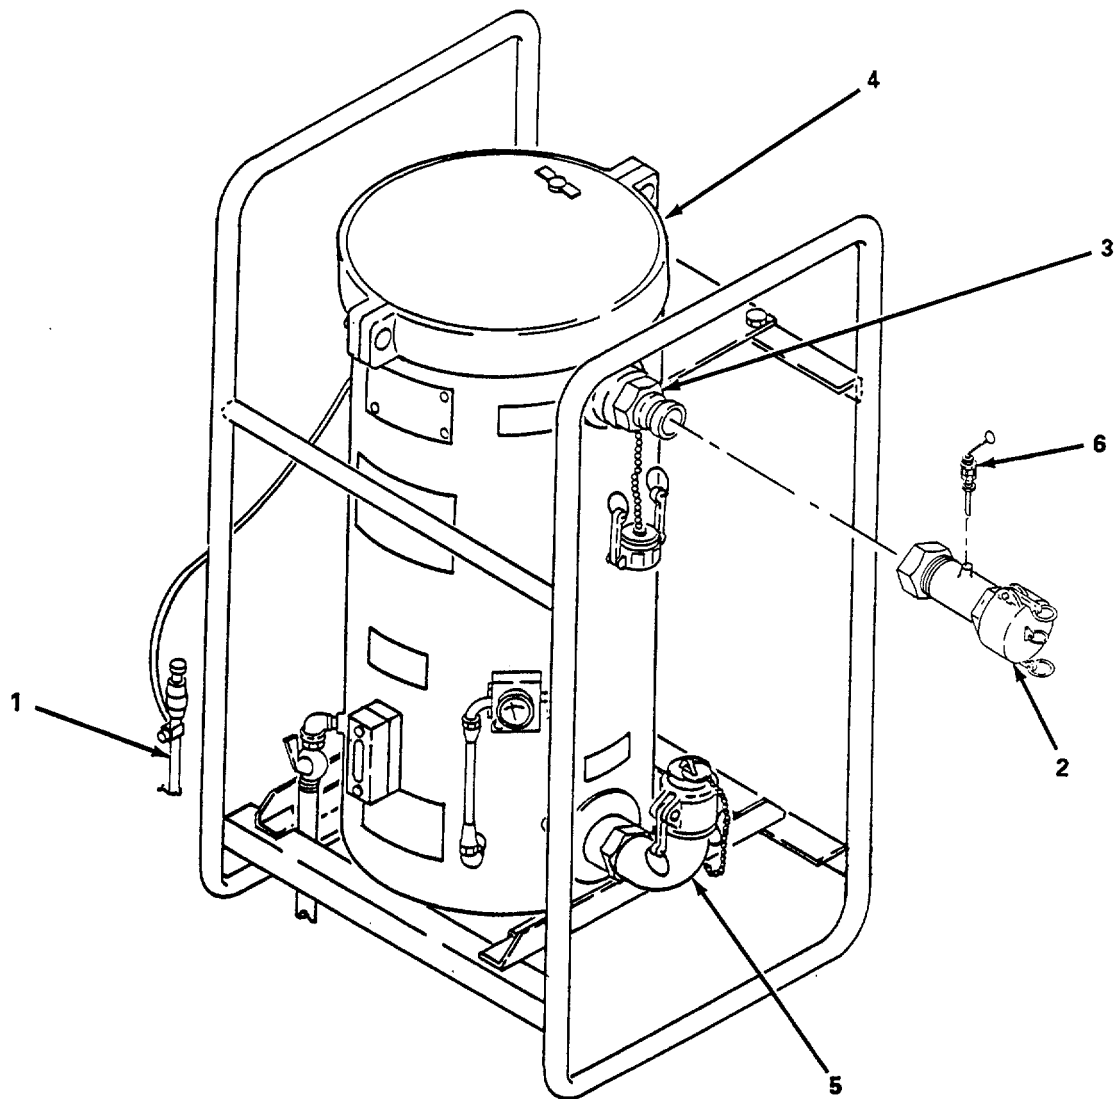
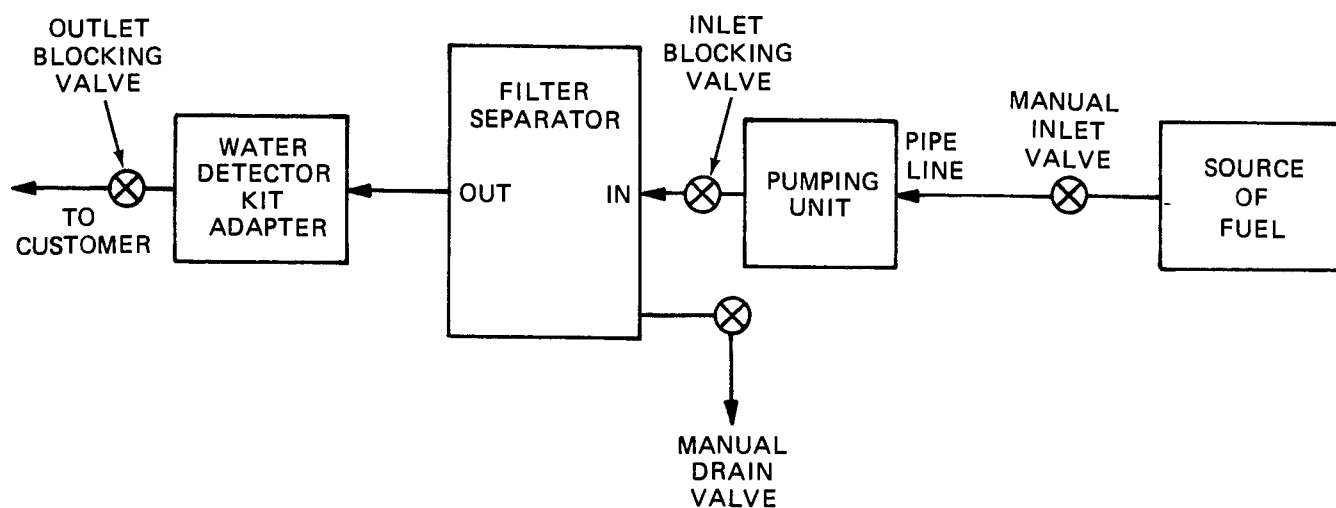

Figure 4-1. Installing Filter/Separator.
Figure 4-2. Typical Operational Layout.
**4-7. Installation.** (Figure4-1)
- c. Drive ground rod (1) into earth at least 8 feet deep, and fasten ground cable to the ground rod and to filter/separator.
- d. Connect water detector kit adapter (2) to outlet connection (3) of filter separator (4).
- e. Connect outlet hose from pumping unit to inlet connection (5) on the filter/separator. Connect outlet hose to outlet connection (3) or to water detector kit adapter (2).
- f. Ensure probe (6) has bevel facing fuel flow.
- g. Refer to figure 4-2 for typical filter/separator operational layout.